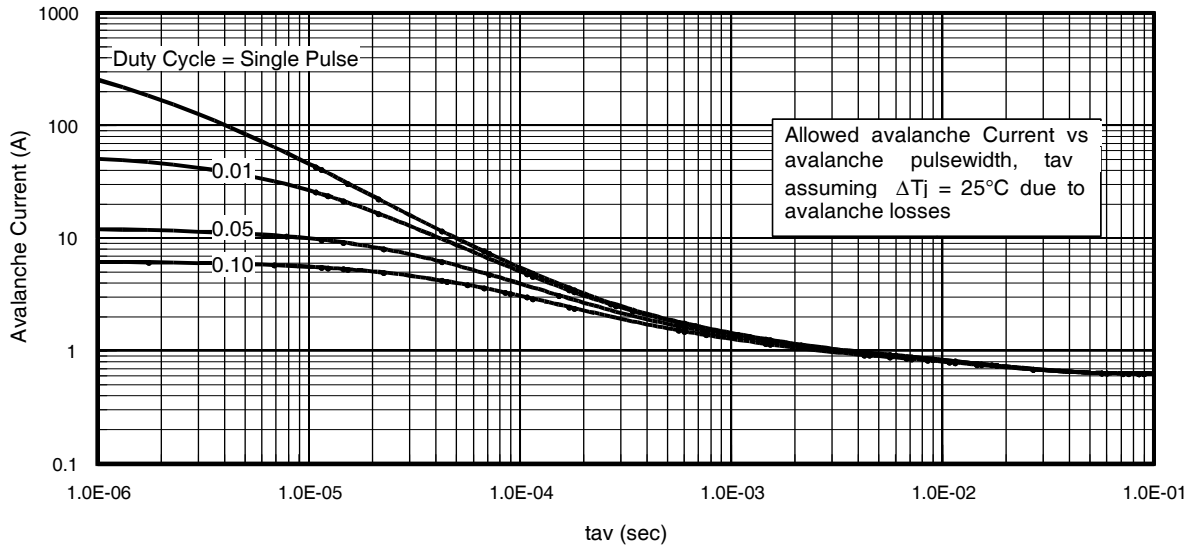

Fig 15. Typical Avalanche Current vs.Pulsewidth
**Notes on Repetitive Avalanche Curves , Figures 15, 16:**
7.  $\Delta T$  = Allowable rise in junction temperature, not to exceed  $T_{jmax}$  (assumed as  $25^\circ\text{C}$  in Figure 15, 16).